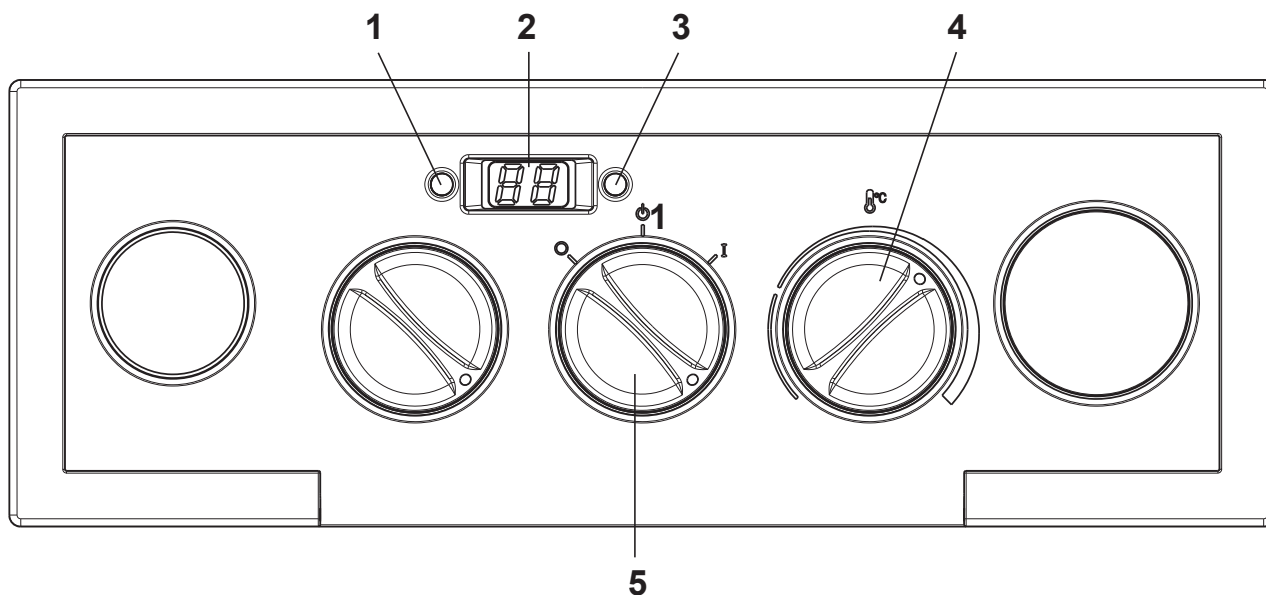

fig. 1
2.2 APPLIANCE CONTROLS (see fig. 1)